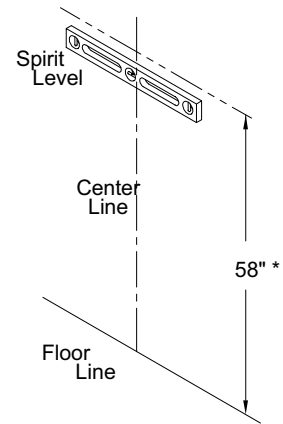

FIGURE 2
1. Determine and mark the vertical center line for installation of the manifold control. (Figure 2)